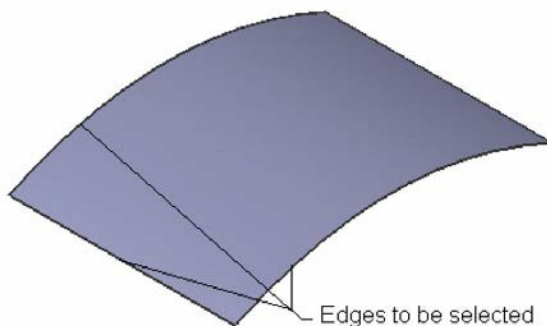

Figure 11-71 Edges to be selected
- c. Create the second feature by extruding the edges of the base feature, refer to Figures 11-71 and 11-72.
1. Invoke the **Extrude** tool and then select the edges of the base surface, refer to Figure 11-71.